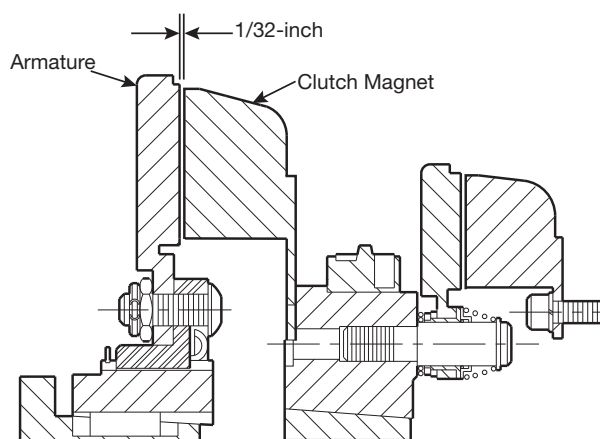

Figure 15
3. When the bushing is secure on the shaft, push the armature against the magnet face. When the armature is released, it will spring back about $1/32$ ". The gap will be automatically maintained for the life of the unit. (Figure 15)